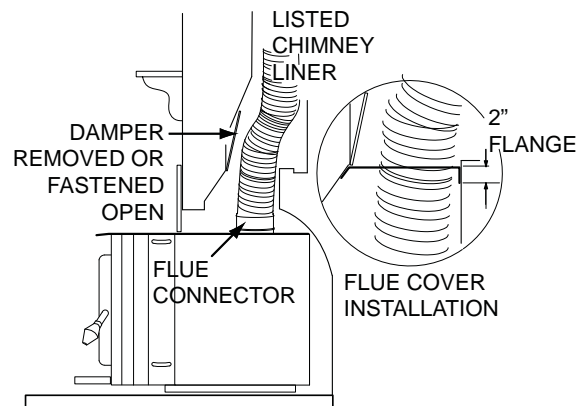

FIGURE 13 MODEL 1402 Illustrated
2. *Measure the throat of the fireplace and mark this shape on a piece of 24 gauge sheet metal (flue cover); cut a six-inch (6.75") hole to lie directly below the fireplace flue opening. Allow two inches of material for a flange on all sides and cut to these measurements. Bend down the flanges. If you have never done this before, it might be a good idea to make a cardboard pattern and test it first. Fasten this flue cover in position as high as possible with two masonry screws per side through the flanges into the fireplace. **FIGURE 13**.